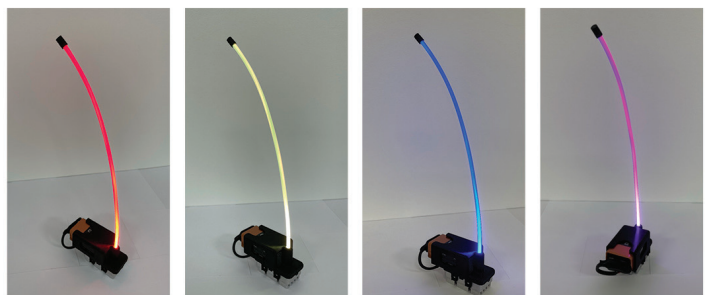

Figure 6. Examples of modules with attached lightguide.
The module, which is designed to meet OEM EMI requirements, uses automotive-grade components and follows automotive design rules for manufacturability. Advanced testing of the reference design demonstrates good thermal performance and compliance with FMC1278 for radiated EMI. The iND83211 module has been tested with lightguides (Figure 6), and among the applications for which it is already being considered is for electric vehicle (EV) charger port lighting where an existing design encountered thermal limits that restricted LED current to 30mA total, resulting in a very poor lighting capability. At the same time, the design was challenged by color mixing issues, which necessitated optics improvements.